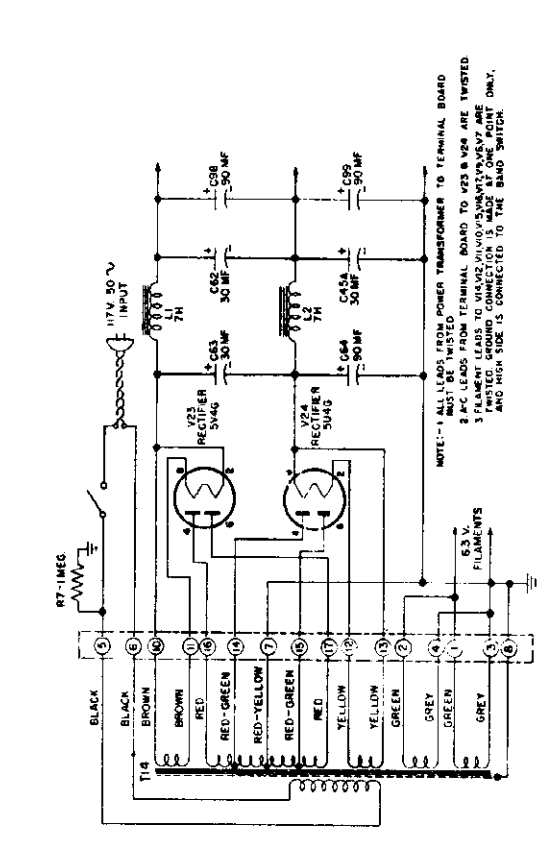

Fig. 18. Schematic Changes for 50-cycle Operation
The supplement schematic diagram, Figure 18, shows the wiring of the power transformer, T14, through the special terminal board installed. Also, it shows the addition of capacitors C98 and C99 required for additional filtering. The changes involved in changing from 60-cycle to 50-cycle operation are listed below:
2. All filament and high voltage leads are extended on the transformer and terminated at the chassis proper in a terminal board. The connection of these leads through this terminal board is shown in Figure 18. All leads are twisted.